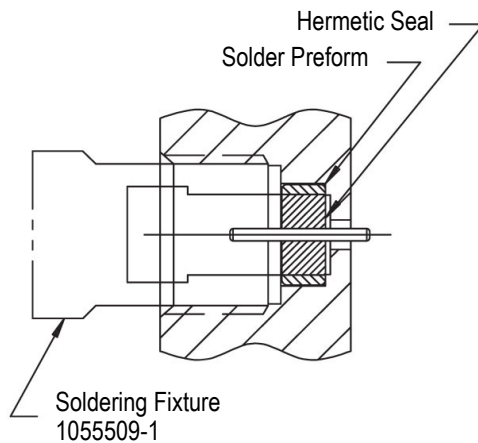

Figure 4
2. Assemble the hermetic seal assembly into the mounting hole as shown in Figure 4.